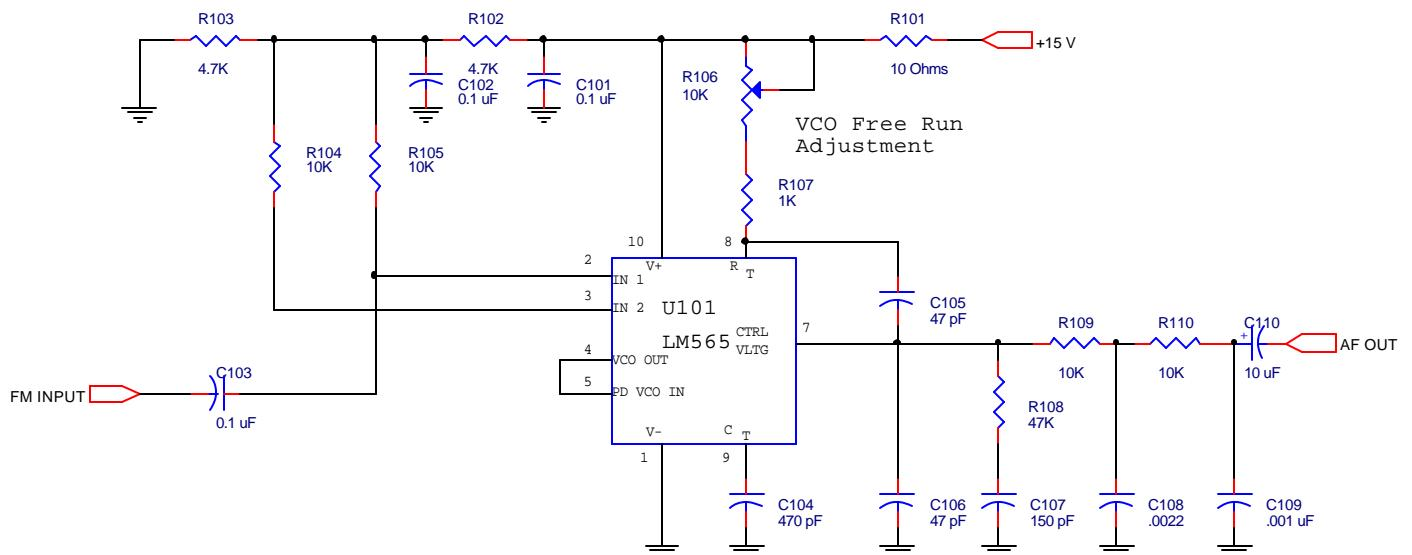

Figure 2: FM Demodulator Using the LM565
Figure 2 shows the FM detector. It's based on the LM565 phase-locked-loop. The loop is set to free-run at 100 kHz by C104 and the series combination of R107 and R106. Potentiometer R106 allows adjustment of the free-running frequency, which should be the same as the carrier or center frequency of the FM transmitter.
6. Build the FM demodulator circuit of figure 2. Keep component lead lengths as short as possible.